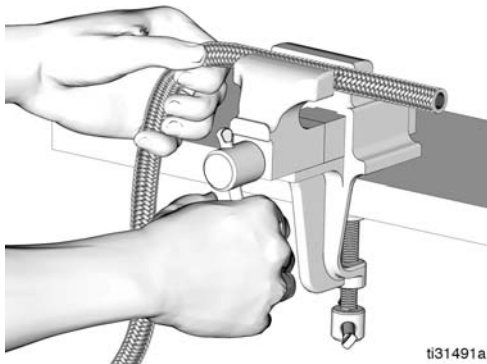

FIG. 56
1. Secure end of hose in a vise (FIG. 56).